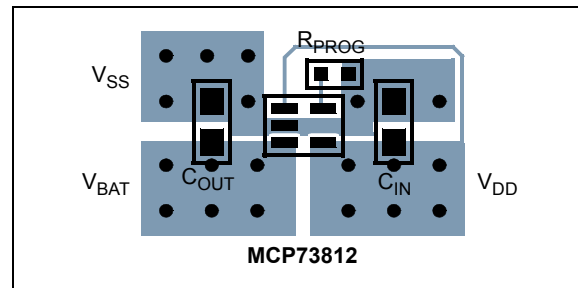

FIGURE 6-3: Typical Layout (Top).
This power dissipation with the battery charger in the SOT-23-5 package will cause thermal regulation to be entered as depicted in Figure 6-3.
If the PCB layout is used as a heatsink, adding many vias in the heatsink pad can help conduct more heat to the backplane of the PCB, thus reducing the maximum junction temperature. Figures 6-3 and 6-4 depict a typical layout with PCB heatsinking.
6. Deleted Figure 6-3.